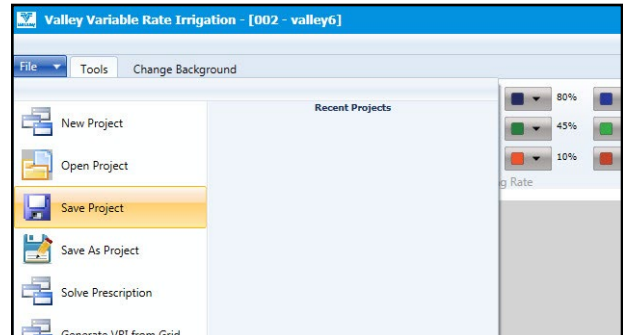

Figure 27-1 Save Project
1. Select **Save Project** in the VRI drop-down menu. See Figure 27-1.